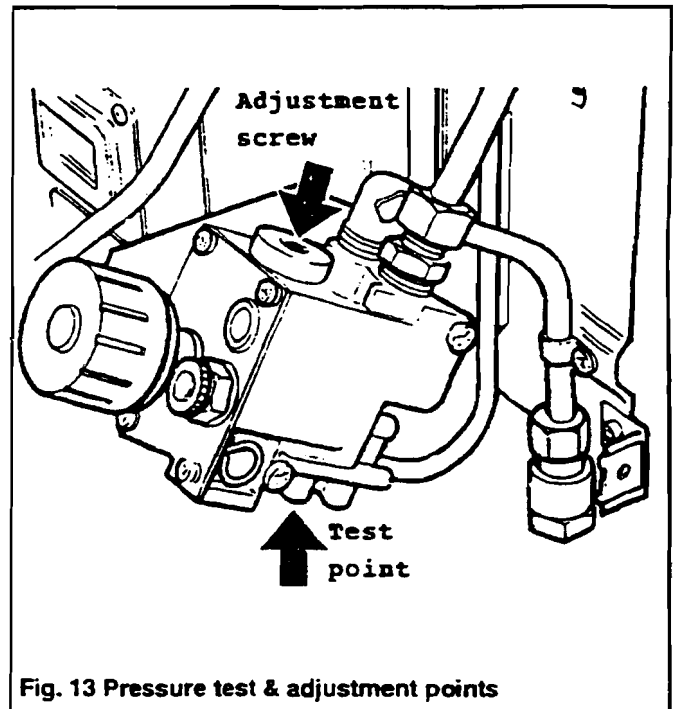

Fig. 13 Pressure test & adjustment points
- 7.11.3 Fit manometer to manifold pressure test tapping point. Tapping is the point nearest the front at bottom of thermostat unit (see figure 13).
- 7.11.6 If pressure is outside the limits, adjust by turning the regulator screw located at the top of the thermostat (see figure 13).